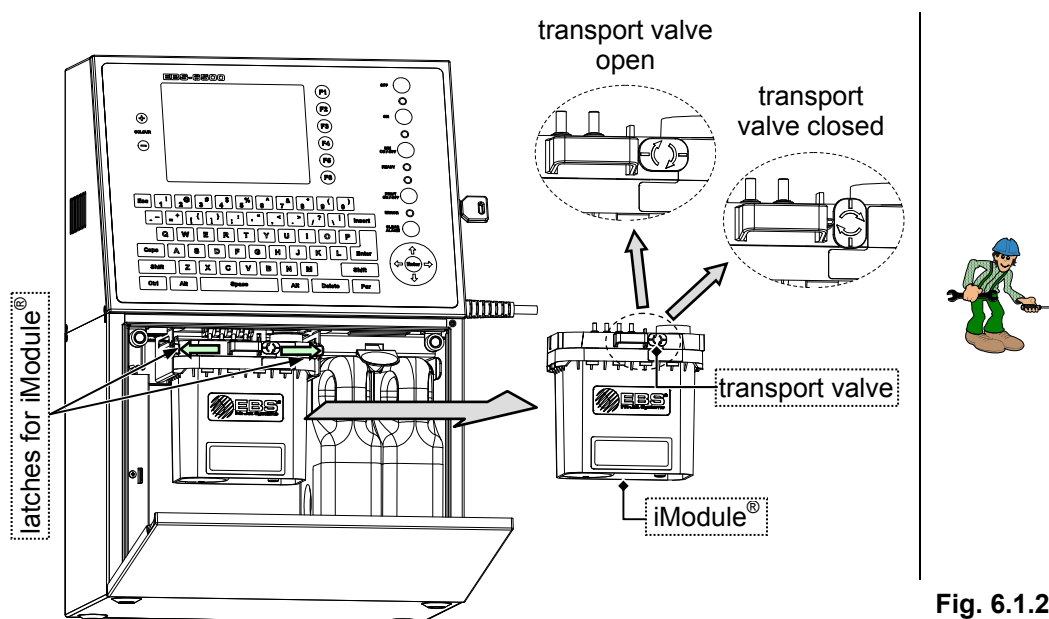

Fig. 6.1.2.1
5. Close the transport-safety valve (see Fig. 6.1.2.1) and then remove iModule® from the printer. In order to pull out the iModule® from the inside of the ink system chamber you need to tilt two fastening latches aside (see Fig. 6.1.2.1). A few seconds after this operation the following message is displayed:
Follow the above given request (and that on the sticker on the iModule®) and open the transport-safety valve of the iModule® (see Fig. 6.1.2.1). When the operation is completed, confirm it with the  icon.